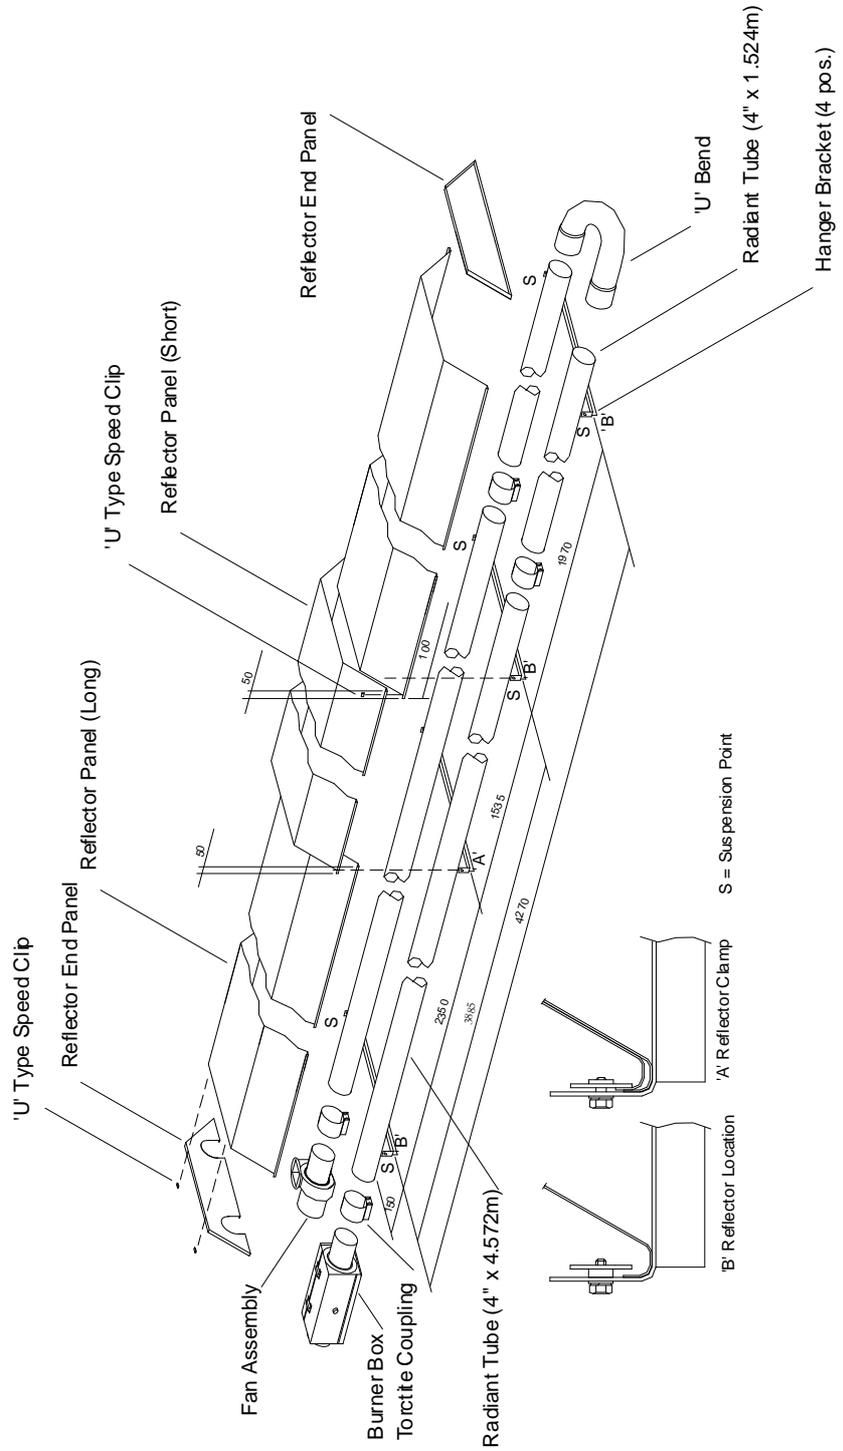

Fig. 18
- 4.4.3 Assemble the four Hanger Brackets to the Radiant Tubes using two U bolts per bracket (from fastenings pack) and position along the Radiant Tubes as shown in Fig 18. Tighten the nuts sufficiently to retain the hanger brackets. Do not over tighten.
4.4.6 Place the two long Reflector Panels onto the Hanger Brackets and position as shown in Fig 18. Place the short Reflector Panel over the two long Reflector Panels to provide a 50mm overlap at each end. Clamp the long and short Reflector Panels (Control Box end) to the Hanger Bracket at which they overlap, using two retainers and M6 setscrews and washers (fastenings pack). Secure the other end of the short Reflector Panel to the second long Reflector Panel using two U type speed clips (from fastenings pack) as shown in Fig 18. Screw the remaining (6) retainers to each of the other Hanging Brackets to provide location for the Reflector Panels as shown in Fig 18.
4.4.7 Position the Reflector End Panel (notched) over the Radiant Tubes and into the end of the Reflector Panel with the End Panel flange flush with the end of the Reflector. Secure the Reflector End Panel to the Reflector Panel by use of 6-U type speed clips provided (fastenings pack); 2 clips per facet of Reflector Panel, as shown in Fig. 18.
4.4.8 The appliance should now be raised and suspended from previously fixed chains or drop rods as detailed in Section 3.1, at suspension points indicated in Fig. 18. Rope or webbing slings should be used when lifting from above. If using a forklift to position the appliance, ensure that the appliance is balanced on the forks prior to lifting.